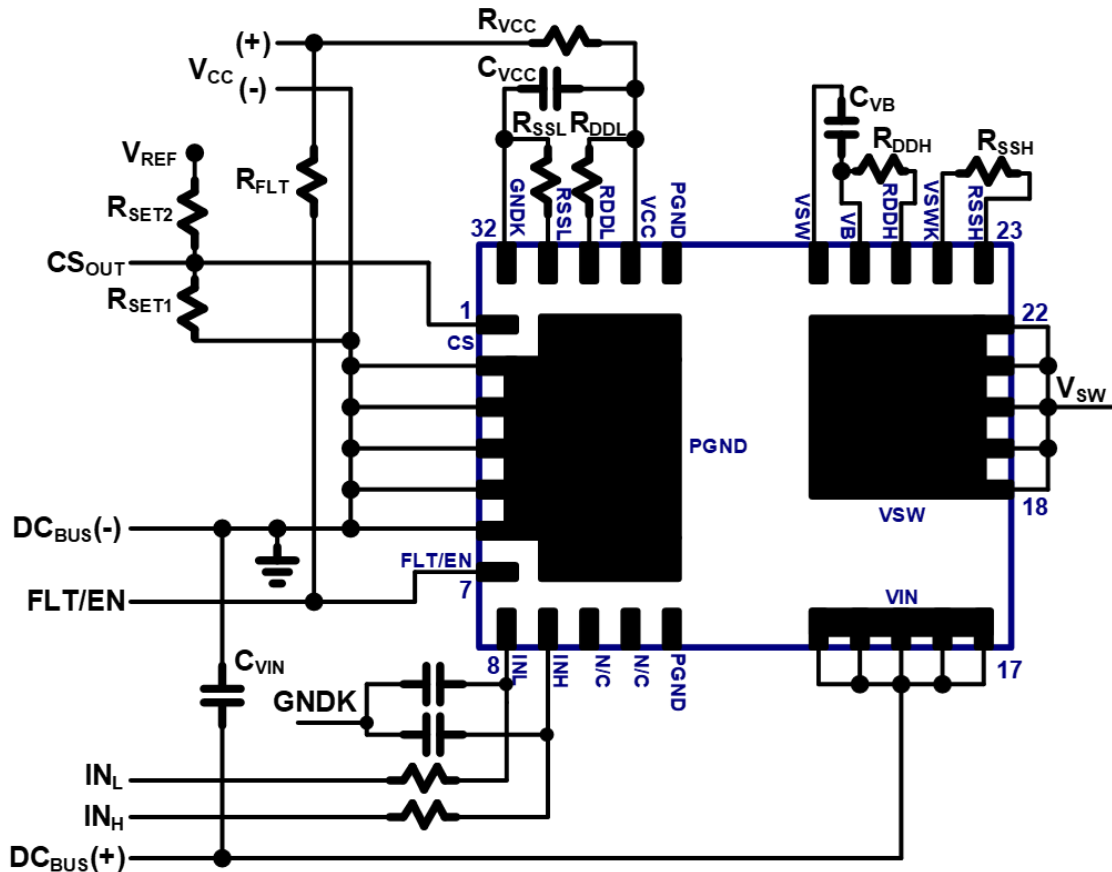

Fig. 23. IC connection diagram
The typical connection diagram for this GaN Half-Bridge IC is shown in Fig. 23. The IC pins include the drain of the high-side GaN power FET (V_{IN}), the half-bridge mid-point switched node (V_{SW}), the source of the low-side GaN power FET and IC GND (P_{GND}), low-side IC supply (V_{CC}), low-side turn-on dV/dt control (R_{DDL}), low-side turn-off dV/dt control (R_{SSL}), low-side referenced PWM inputs (IN_L , IN_H), low-side current sensing output (CS), \overline{FLT}/EN pin for enabling the device and internal fault detection, high-side supply (V_B), high-side turn-on dV/dt control (R_{DDH}), high-side turn-off dV/dt control (R_{SSH}). The external low-side components around the IC include V_{CC} supply capacitor (C_{VCC}) connected between V_{CC} pin and P_{GND} , turn-on dV/dt set resistor (R_{DDL}) connected between V_{CC} pin and R_{DDL} pin, turn-off dV/dt set resistor (R_{SSL}) connected between the R_{SSL} pin and the $GNDK$ pin, current sense amplitude set resistor ($R_{SET1,2}$) connected between CS pin, V_{REFADC} and P_{GND} , and the \overline{FLT}/EN pull-up resistor (R_{FLT}) connected to V_{CC} for enabling the device and for internal fault detection. The external high-side components around the IC include V_B supply capacitor (C_{VB}) connected between V_B pin and V_{SW} , V_{DDH} supply capacitor (C_{VDDH}) connected between V_{DDH} pin and V_{SW} , turn-on dV/dt set resistor (R_{DDH}) connected between V_B pin and R_{DDH} pin, turn-off dV/dt set resistor (R_{SSH}) connected between the R_{SSH} pin and the V_{SWK} pin. The high side V_B bypass capacitor must be chosen carefully to accommodate various system considerations such as high side wake up time and high side hold up time.